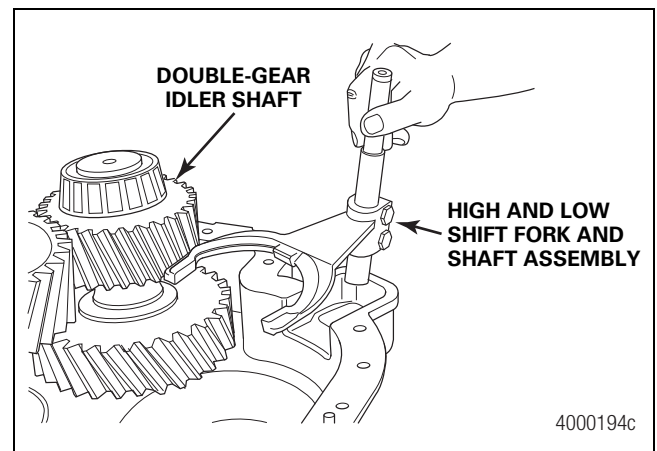

Figure 4.19
8. Remove the high and low shift fork, shift shaft and clutch collar from the front case. Figure 4.19.